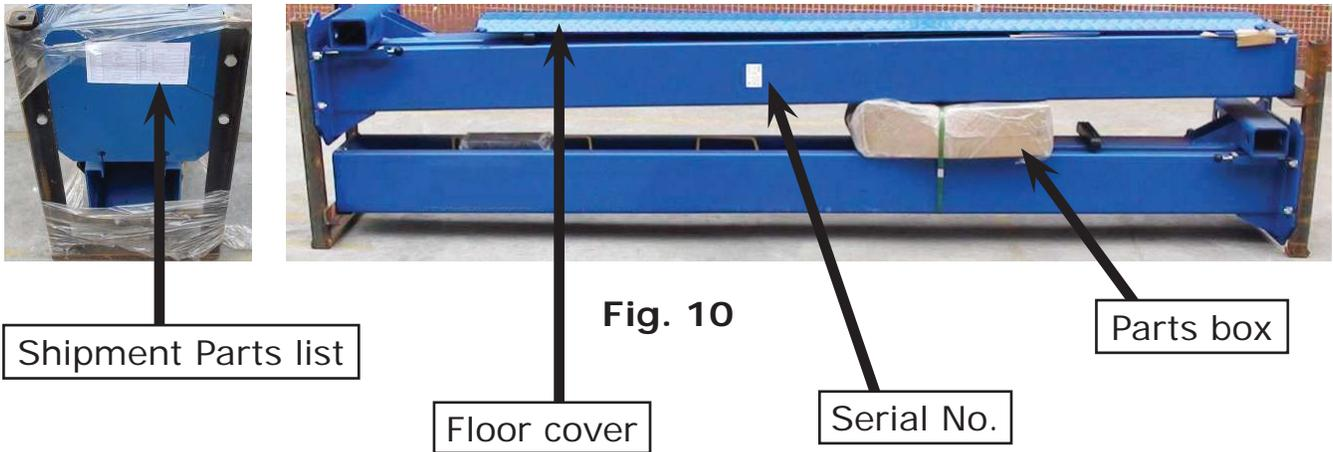

Fig. 10
2. Move the lift aside with fork lift or hoist, and open the outer packing carefully, take off the parts from upper and inside the column, take out the parts box, check the parts according to the shipment parts list (See Fig. 10).